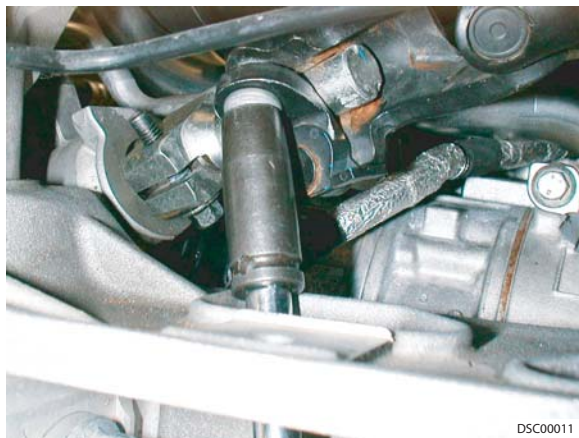

Figure 13
44. Disconnect steering column link to steering rack and tie aside (refer to Figure 13).